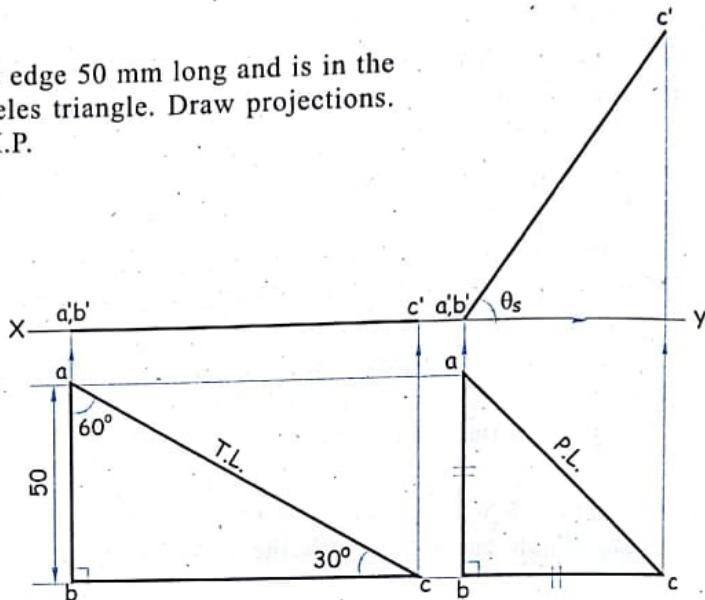

FIG. 9.15
**Solution :** Refer figure 9.15.